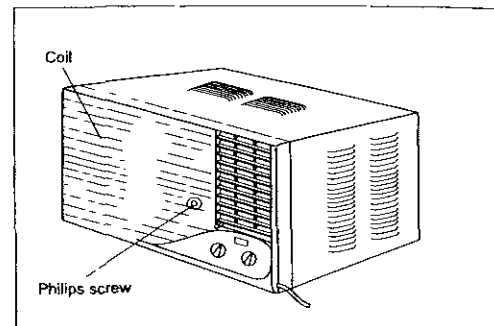

Fig 17
B. Secure the front grille to the cabinet using the Philips screw removed earlier (Fig 17).